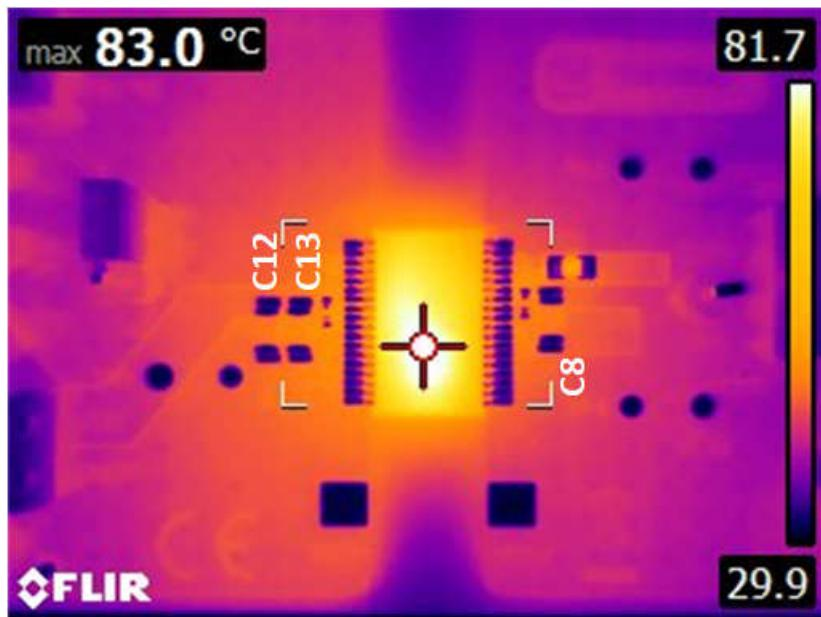

Figure 14-6. Thermal Image
f. As seen in Figure 14-6, there is a point of diminishing return, regarding the number of vias and size of the thermal via array. For 1.5-W of output power, heat transfer is shown to quickly diminish just beyond C12 and C8. The distance from the inner pad line of U1 to C12 is 320 mils.